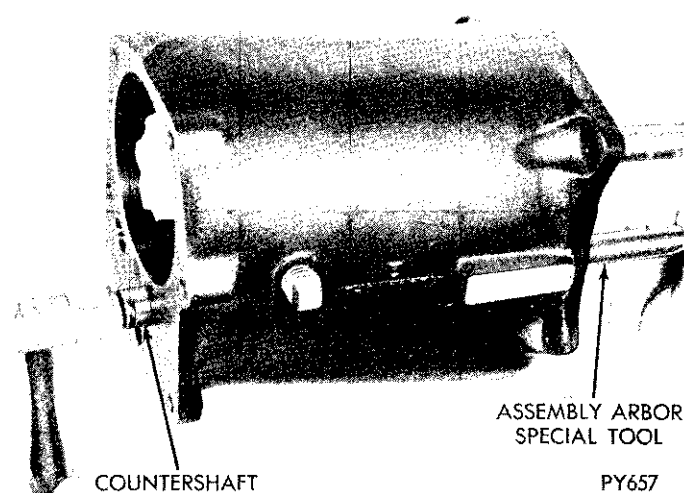

Fig. 26—Countershaft—Installation
- (11) Now finish installation of countershaft gear assembly by positioning it and the thrust washers so that the countershaft can be tapped into position (Fig. 26). **Be careful to keep the arbor in contact with the countershaft to avoid parts dropping out of position and blocking the installation.** Install key in countershaft as installation is finished.